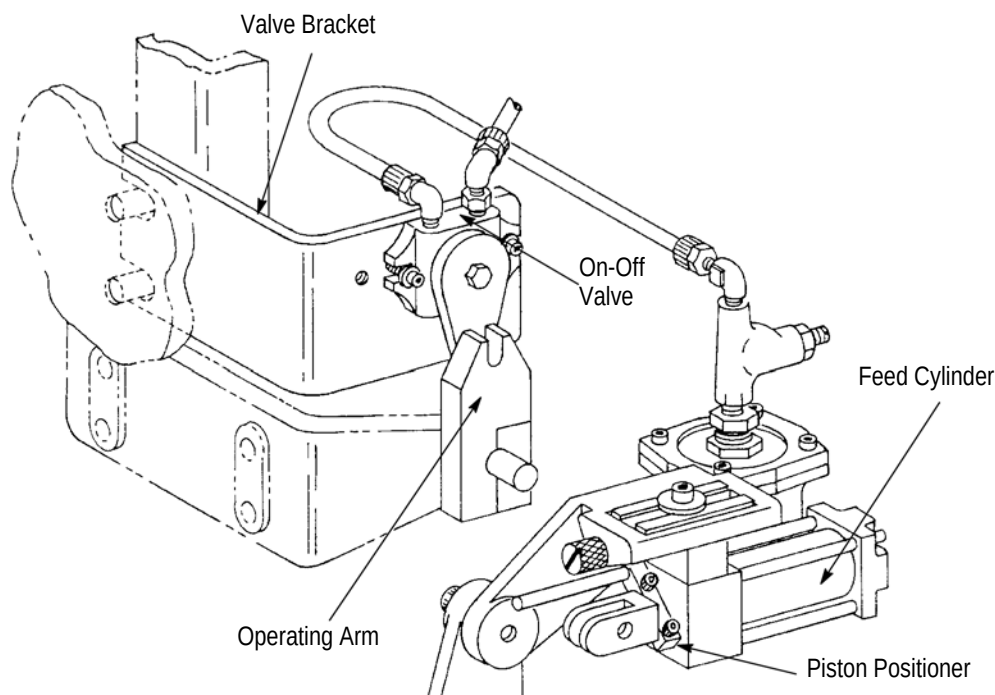

Figure 5
b. Applicator with air feed systems (Figure 5) -